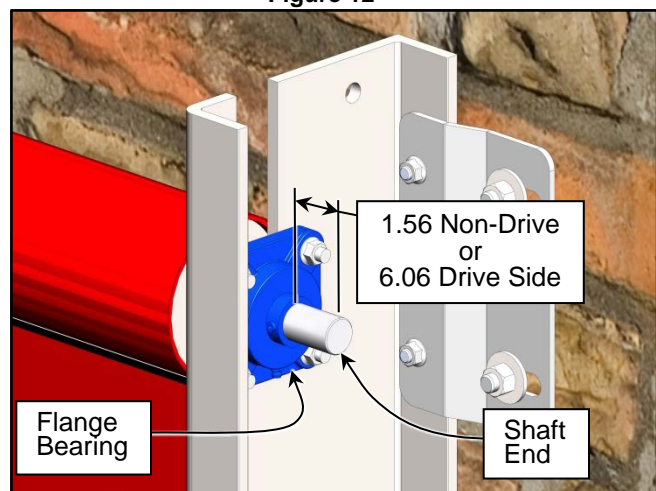

Figure 13
- Lift and slide the shaft of the drum roll/panel assembly into the bearing block of the right side column. If this is the non-drive side, the distance of the protruding shaft end should be approximately  $1\text{-}\frac{9}{16}$ ". If this is the drive side, the shaft end should protrude  $6\text{-}\frac{1}{16}$ " as measured from the outer most part of the bearing to the shaft end. Loosely tighten the set screw in the bearing bracket to the shaft but the non-drive side location may need to be adjusted later on during the installation. (See Figure 13)